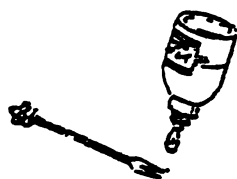

FIG B-2
- 3) Apply a drop of oil VFK1268 to the tip of some tweezers to prevent over application. Fig. B-2.